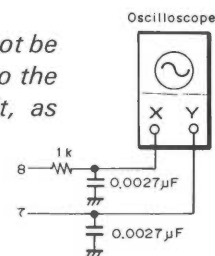

Fig. 4
2. Turn the screwdriver slowly so that the width of the Lissajous waveform in the direction of the X axis becomes minimum, and then turn it until the Lissajous waveform with the same shape as that observed in item 4 in "Centering check". (Fig. 4)